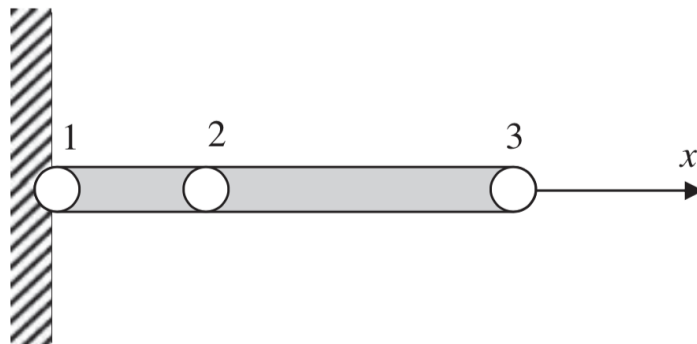

Figure 3:
3. Consider a three-node quadratic element in one dimension with unequally spaced nodes as shown in Figure 3.